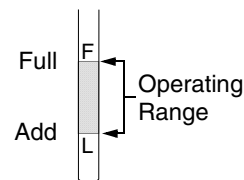

Figure 48
- Always keep the oil level between the 'F' (full) and the 'L' (add) marks on the dipstick. See Figure 48.
- SLOWLY pour oil into the crankcase until the oil level reaches the “FULL” mark on the dipstick. Refer to Figure 48.